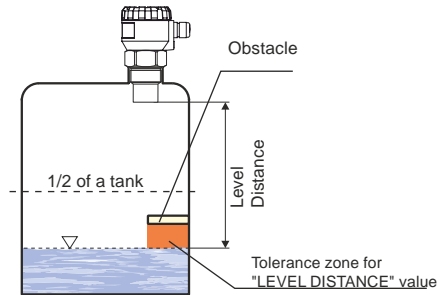

Fig. 21: Level distance zone
2. Now it is shown the item "TEACHING". By pressing set the value "DISTANCE TO LEVEL" – supposed distance from the face of the sensor to the medium level. If the distance to the level is not precisely known, enter a value rather lower (in the tolerance field as shown in fig. 21).